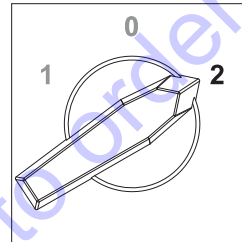

Figure 3-4. Flex Switch—Position 2
2. See Figure 3-4. Switch the flex switch (if equipped) to position 2.